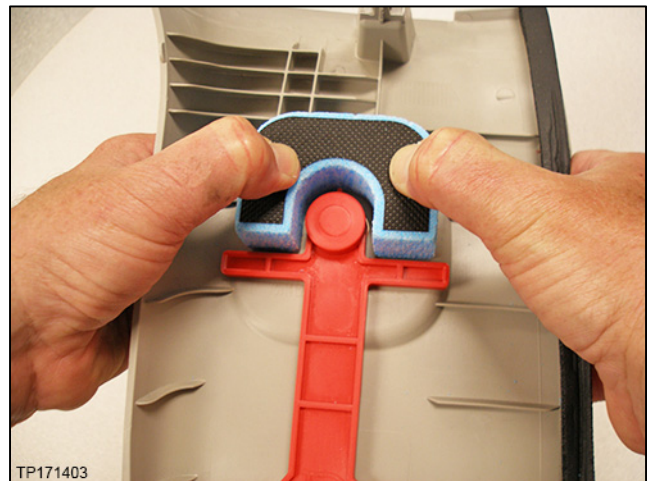

Figure 13
11. Align and install the foam spacer with the adhesive toward the rear pillar upper finisher as shown in Figure 13.